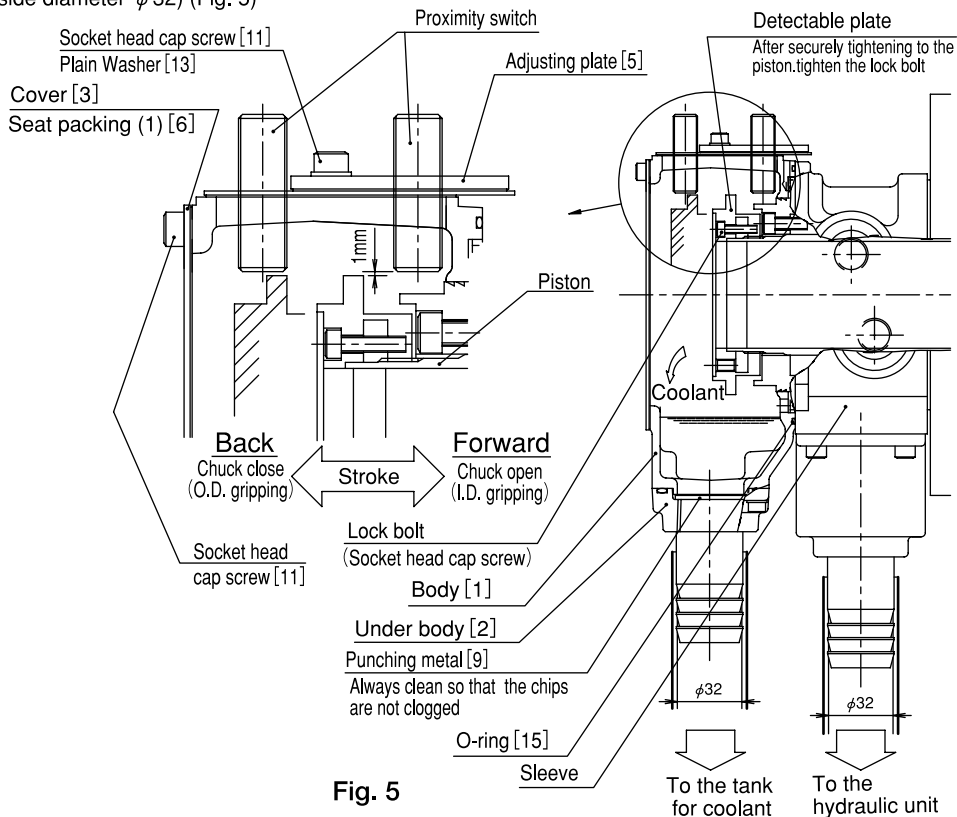

Fig. 5
(Inside diameter $\phi 32$) (Fig. 5)
Read following instruction when you adjust the proximity switch. (Fig.5)
- If the coolant overflows from the coolant collector, the coolant is flows to the sleeve side. Always clean the punching metal [9] so that the coolant does not stagnate inside the coolant collector. Be sure the chips are not clogged. (Fig. 5) Loose the socket head cap screw [11] when you remove the under body [2]. (Refer to page 20)